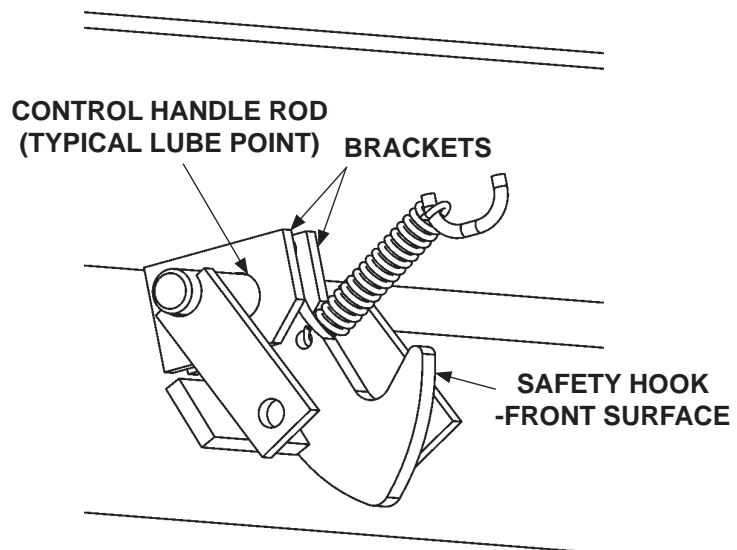

FIG. 20-3
1. Make sure front surface of safety hook (**FIG. 20-3**) is lubricated with automotive grease. Apply grease if required.
2. Make sure control handle rod (**FIG. 20-3**) is lubricated where it has contact with brackets. Apply automotive grease if required.